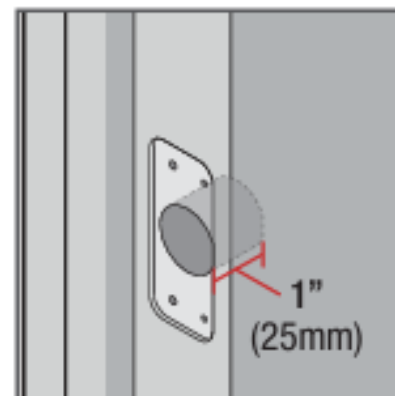

Fig. 2
- A2. Home Connect 620 might be jamming. Check that the bolt hole is at least 1" deep so the bolt fully extends (Fig. 2). Check that the door closes properly so that when the deadbolt is extended, it is going into the bolt hole and not hitting the deadbolt strike or door frame. Check that the mounting screws securing the exterior keypad are not over-tightened. Please see Warped Door Installation Guide for additional information.